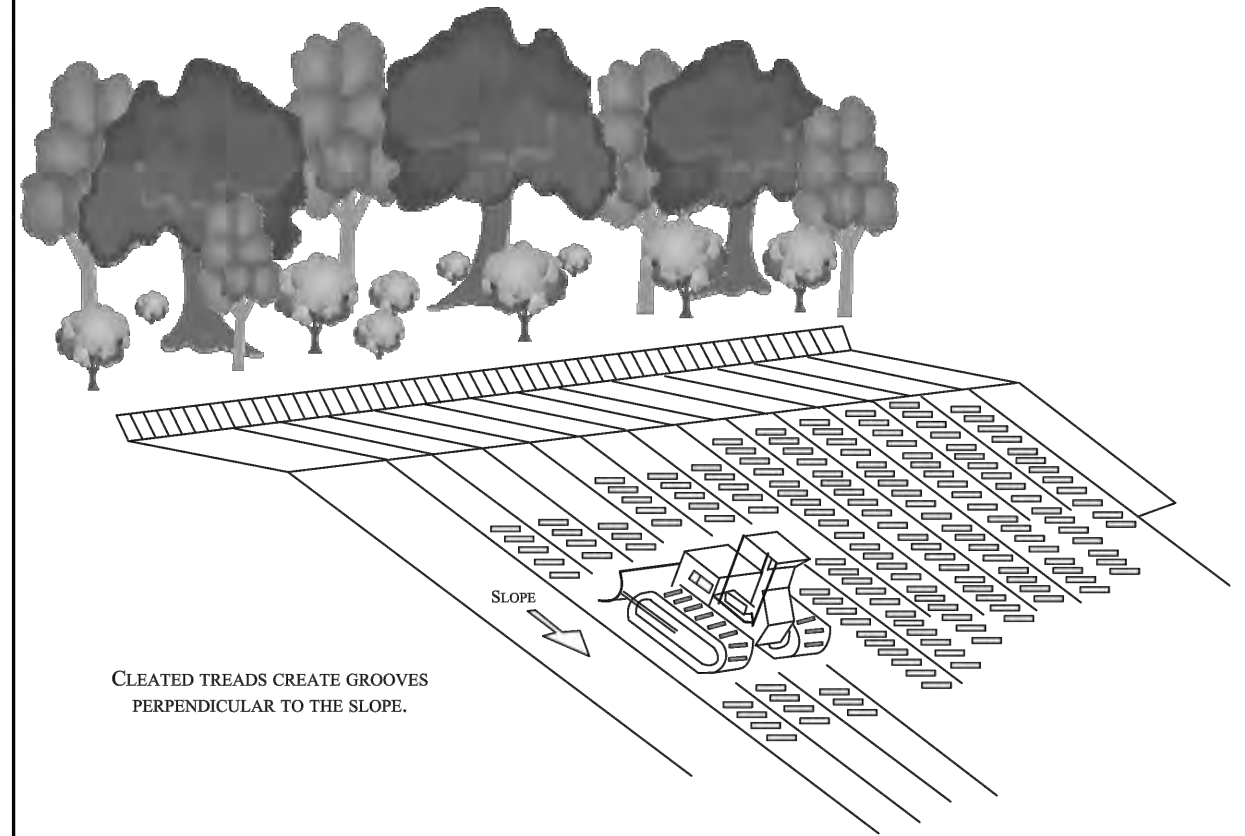

Figure 8
- d. EPP Section 8.7 – Cat Tracking (ESCP Sheet A11 - Figure 8)